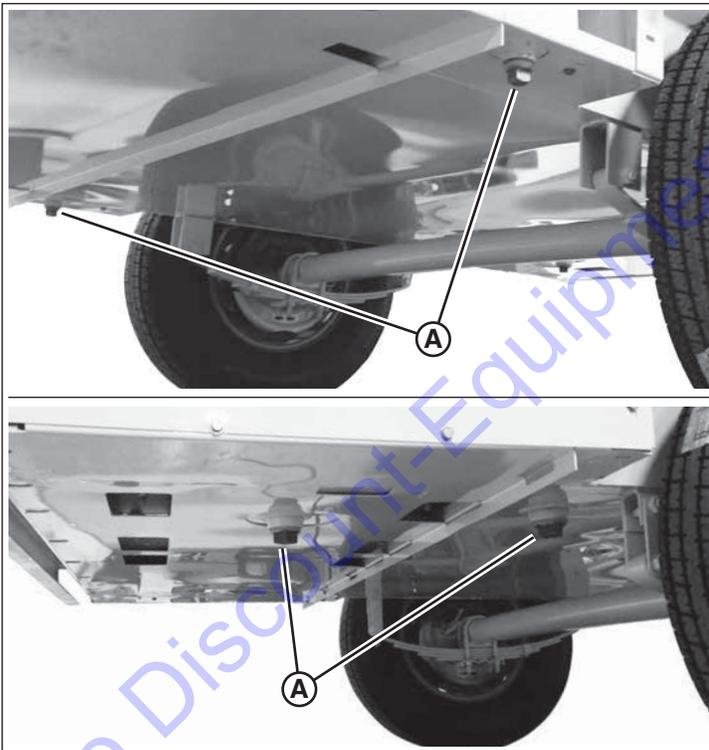

Figure 50
1. Position a suitable container beneath any of the four fluid containment drains (A, Figure 50), located beneath the unit toward the rear.